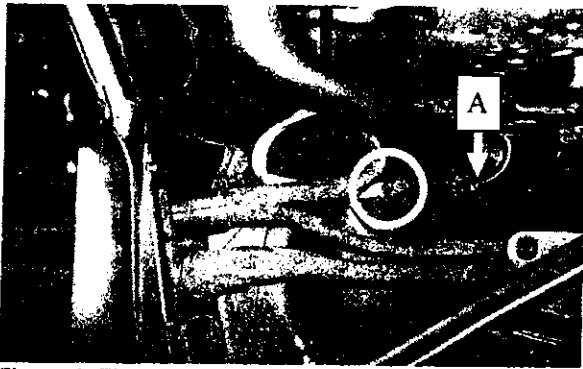

Figure 3: Threaded stud of ground wiring harness
4. Detach the SBC hydraulic unit ground line at the threaded stud (Figure 3)